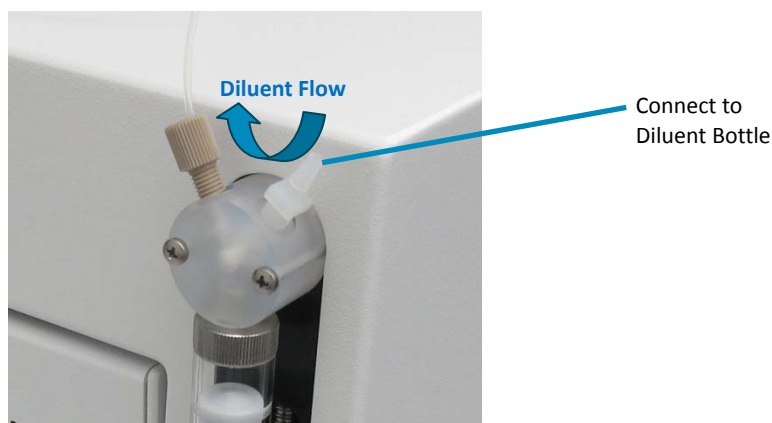

Figure 3-2. Front view of autosampler and ADX-500.
- 2 Attach an approximately 2 ft. length of 1/8" ID (1/4" OD) Tygon tubing for the diluent to the ADX-500 syringe pump. The tubing should be long enough to almost reach the bottom of the bottle. See Figure 3-2, callout F.